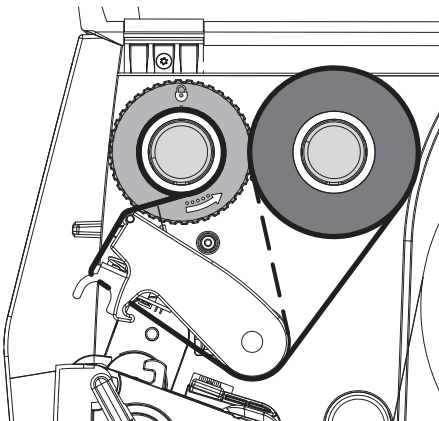

Figure 13 Transfer Ribbon Feed Path
5. Adjust the position of the guide on the take-up hub to the width of the ribbon core (4) and push ribbon core on the take-up hub (2).
6. Guide the transfer ribbon through the printing unit as shown in Figure 13.
► **Guide transfer ribbon over the label sensor (6).**
7. Secure the starting end of transfer ribbon to the transfer ribbon core (4) with adhesive tape. The transfer ribbon take-up hub is turned counterclockwise.
8. Turn transfer ribbon take-up hub (2) counterclockwise to smooth out the feed path of the transfer ribbon.